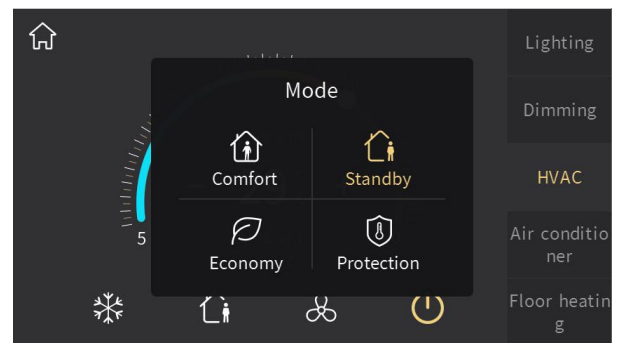

Fig.2.3.4
⑩ Enter the mode setting by touching this area, and will pop up a sub-window shown as figure 2.3.4.